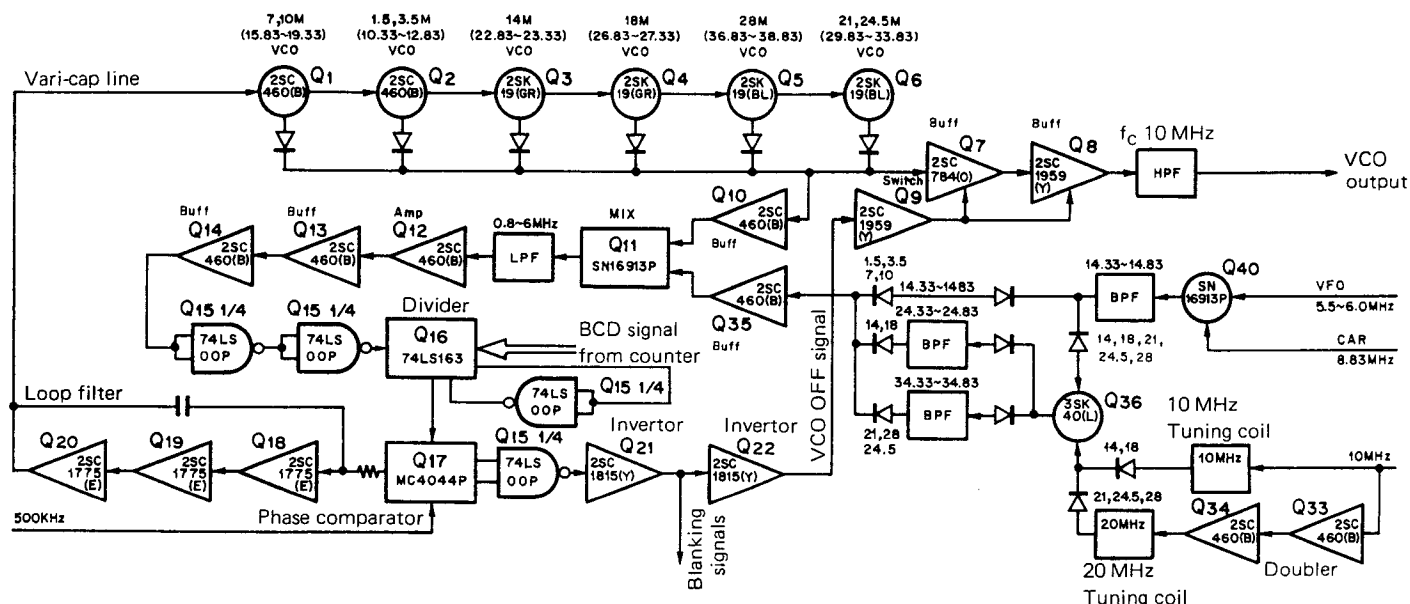

Fig. 2 TS-530 PLL circuit configuration
Frequency organization of the PLL circuit is shown in **Fig. 1**, the circuit diagram in **Fig. 2**, and frequency organization in other circuits is summarized in **Table 4**. Please refer to **Fig. 1** when reading the following description of PLL circuit operation. MIX (3), a double balanced mixer, mixes the CAR output with the VFO output. MIX (2), which operates for the 18 MHz band and above, mixes either 10 MHz, in the 14 and 18 MHz bands, or 20 MHz, in the 21, 24.5 and 28 MHz bands, with the output of MIX (3) to generate the appropriate frequency needed for each band, as shown in **Table 4**.